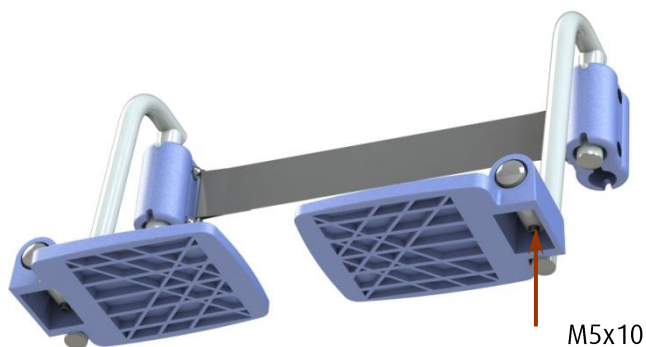

Figure 20 Footrest
- Check M5x10 (bottom of plate), and replace stainless-steel screws with ELVZ 8.8 screws. (See figure 20)